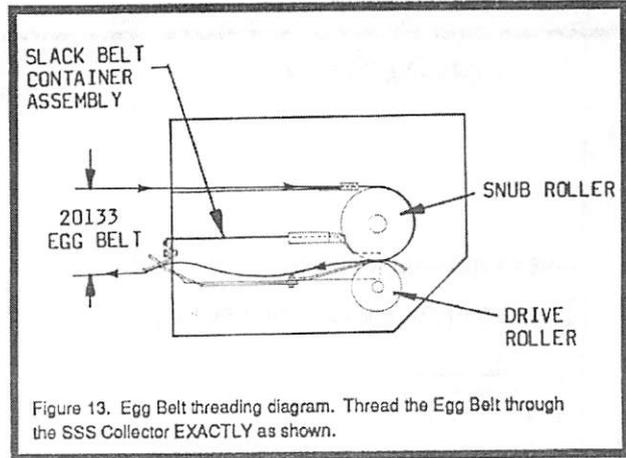

Figure 13. Egg Belt threading diagram. Thread the Egg Belt through the SSS Collector EXACTLY as shown.
2. Thread the Egg Belt through the egg collector as shown in Figure 13.